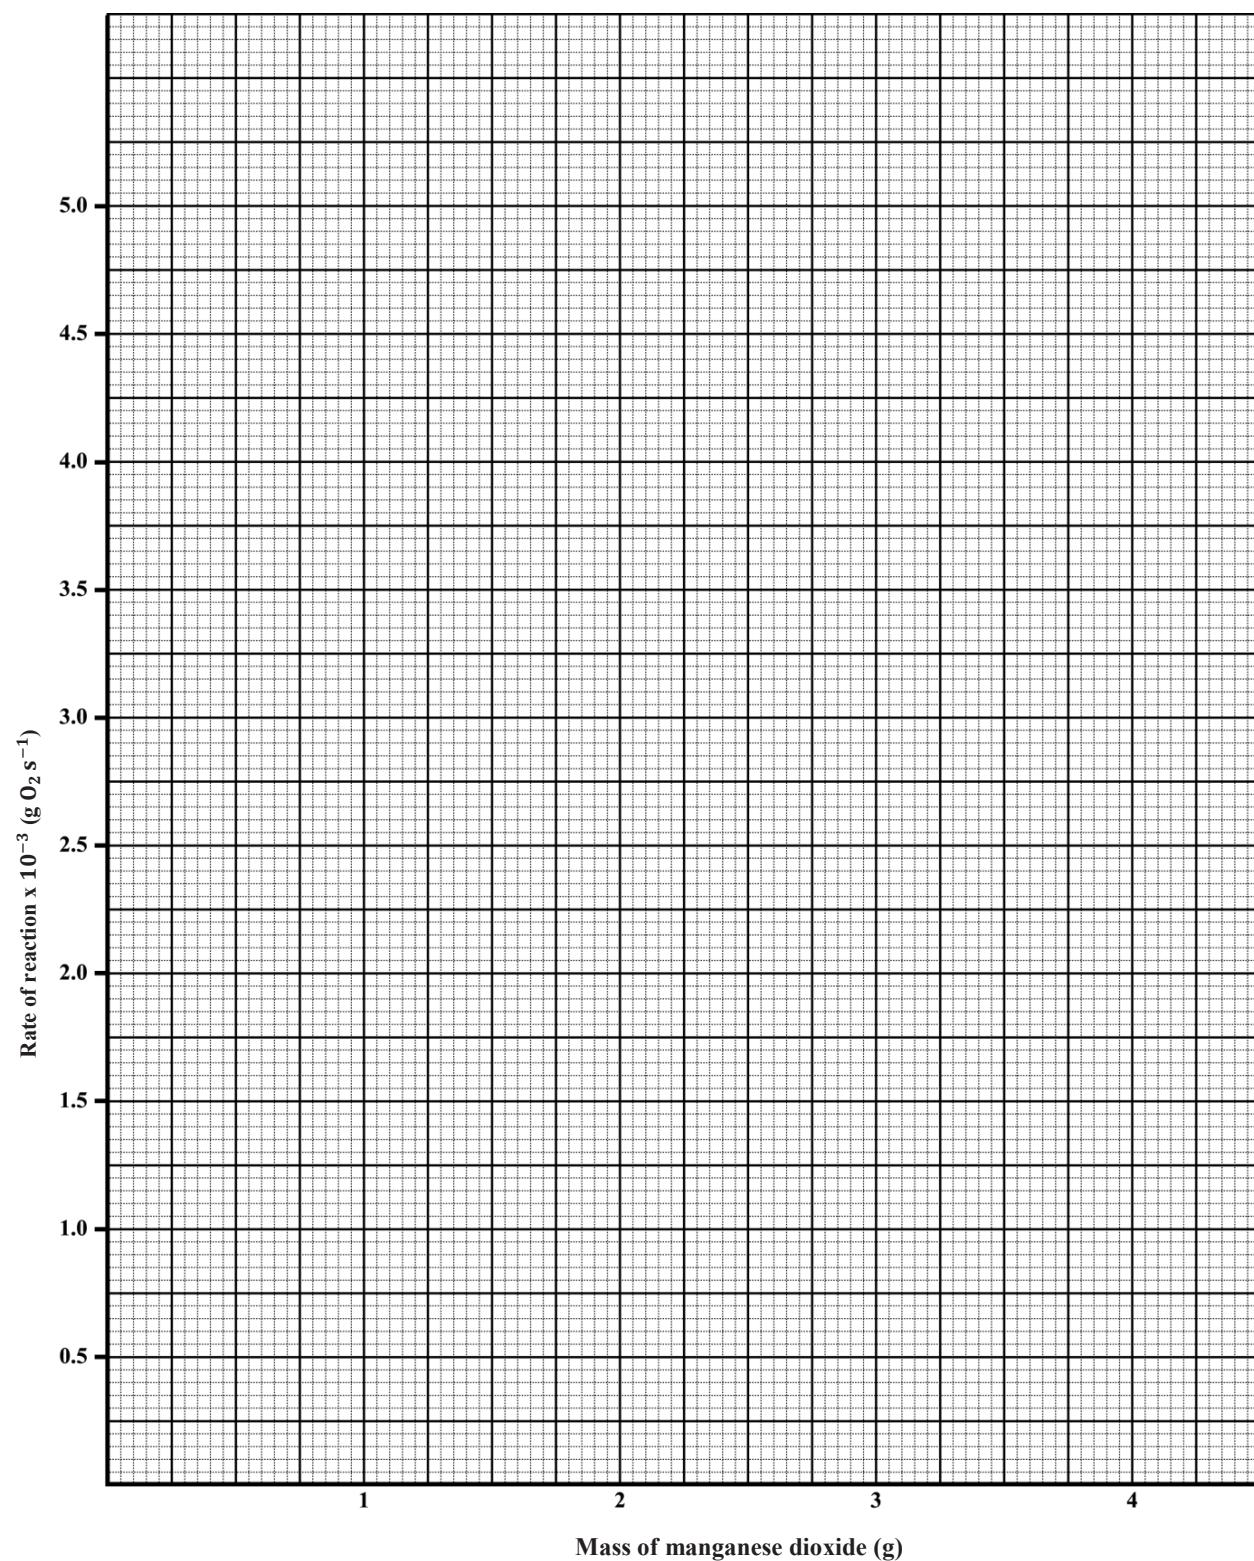

Figure 1. Rate of reaction versus mass of manganese dioxide
- (iii) Use the axes in Figure 1 on page 3 to plot a graph showing rate of reaction versus mass of manganese dioxide.
- (viii) Steve conducted another experiment to compare the rate of decomposition of 0.3 mol dm⁻³ hydrogen peroxide using the same amounts of MnO₂. On the same axes in Figure 1, sketch a graph to show how the rate of production of oxygen compares with that from Experiment 1.